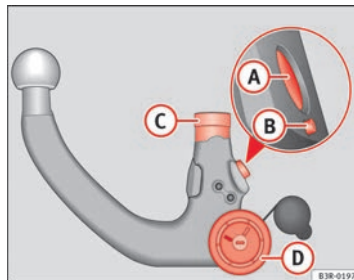

Fig. 153 Removable tow-
- Check the locking pin (A), release pin (B), shaft section (C) and knob (D) ⇒ fig. 153 on the ball joint to make sure they are clean and undamaged.